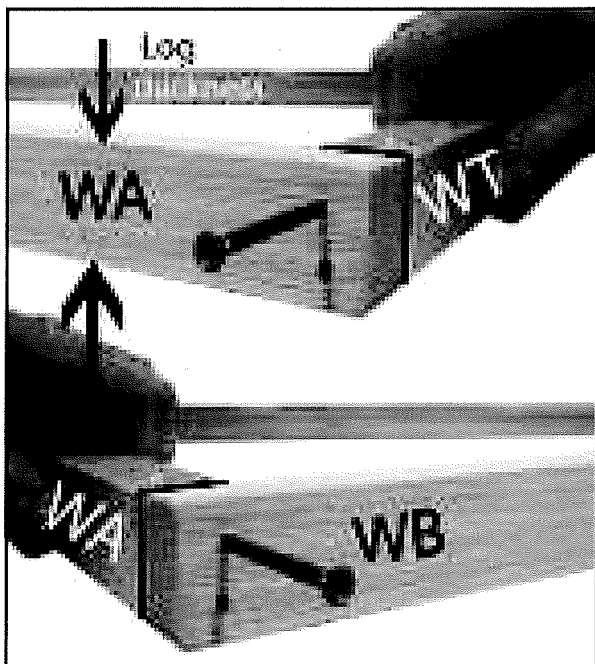

Fig A1
4. Lay out the parts **WA** and **WB** and **WT** as in the inner frame assembly drawing. The narrowest (25mm) edge to the work bench and the side the size is the same as the log thickness as shown in fig A1 . Part **WT** must be inside parts **WA** and part **WB** underneath the two **WA** parts (Fig A1) .
5. Pre drill 2 3mm holes at one end of the **WA** only and at both ends of the **WB** parts ( **see drawing** )and screw together at each corner,10mm in from the edge (ensuring each corner is flush) with 2x50mm screw (fig A1).